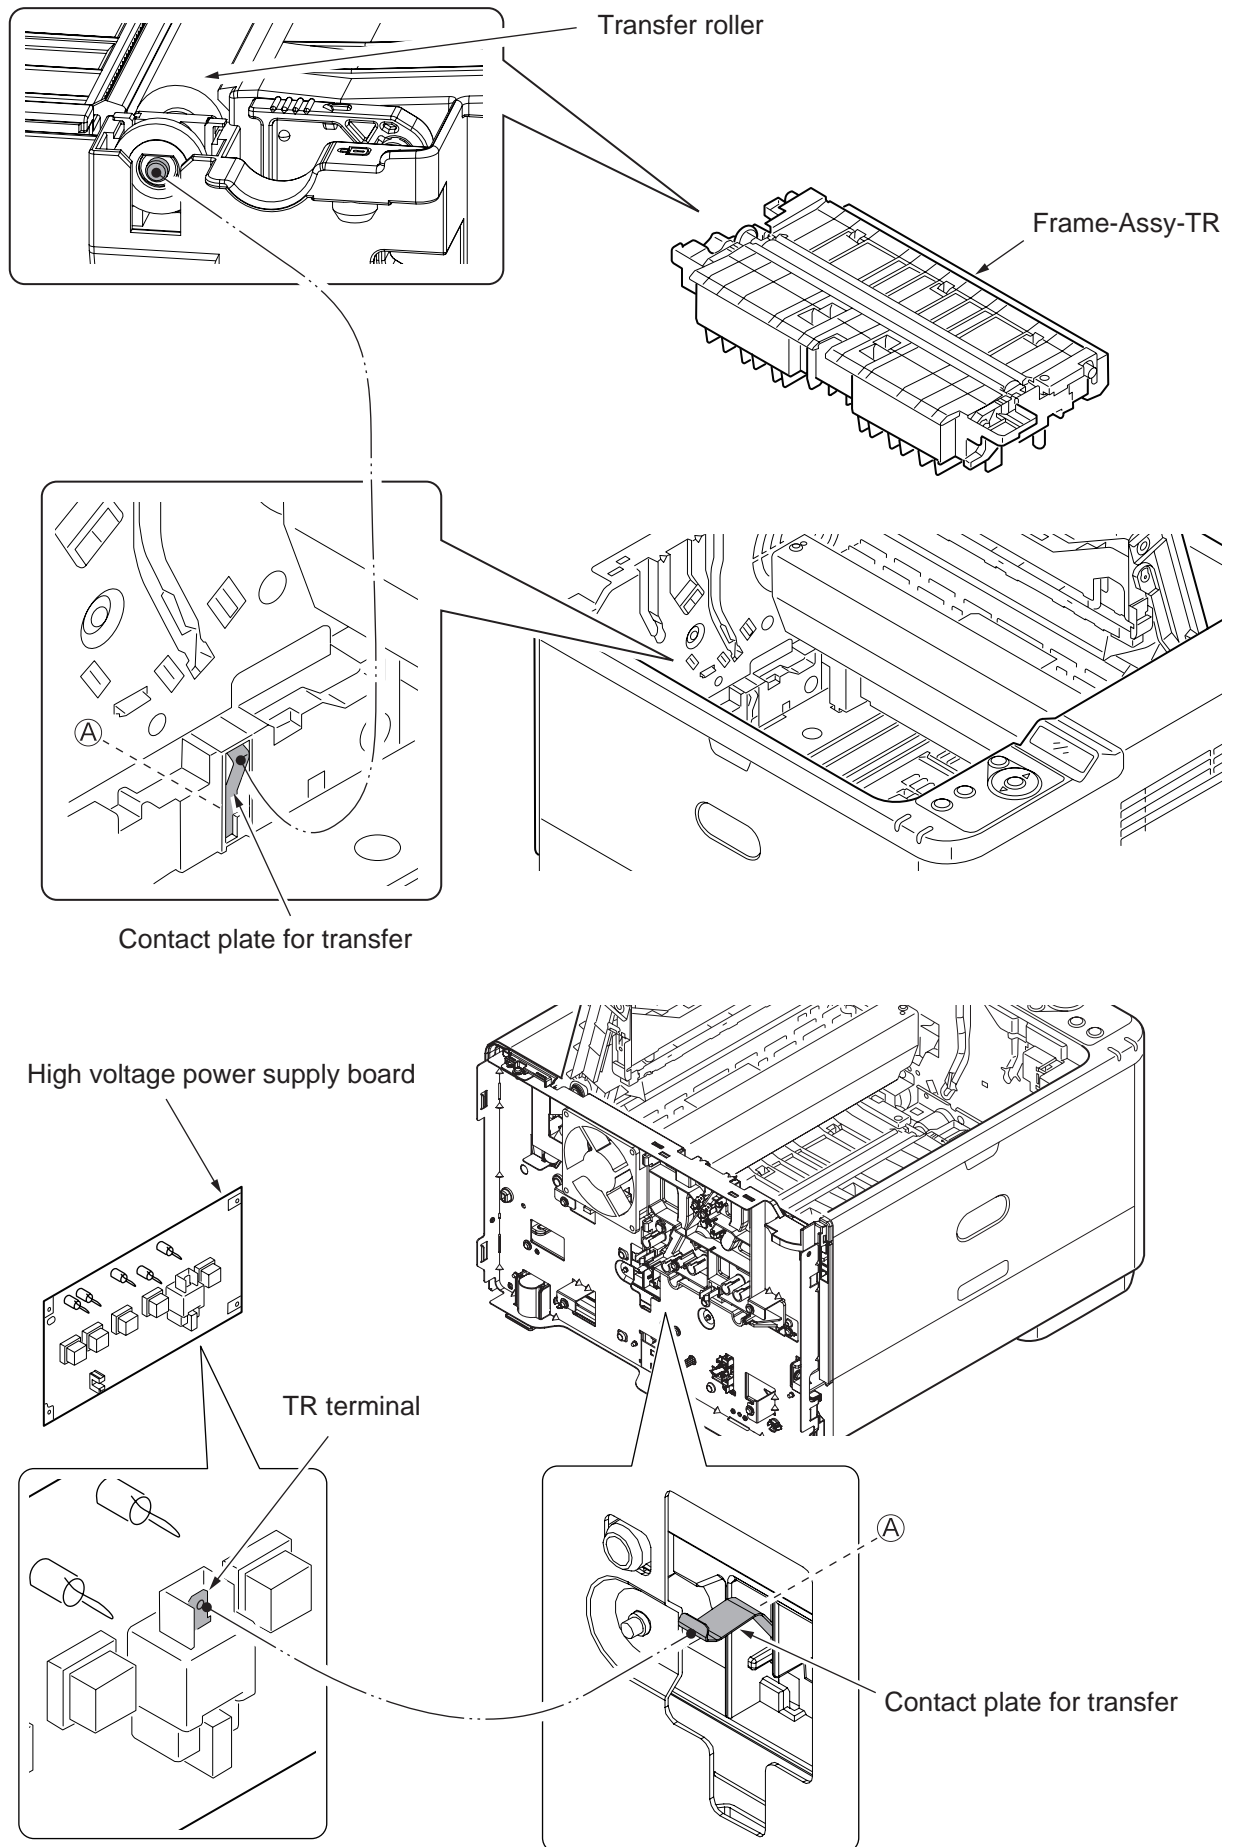

Figure 6-4
- ▼ Yes Does the contact plate of the transfer roller contact the TR terminal of the high-voltage power supply unit properly? (See Figure 6-4 , Section 7.2(3))